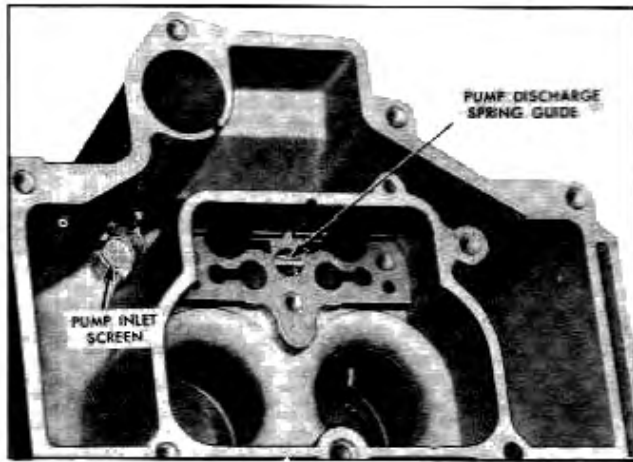

Fig. 6B-44 Pump Discharge Spring Guide and Pump Inlet Screen
6. Remove pump return spring from pump well (Fig. 6B-43). Carefully invert carburetor body to remove aluminum pump inlet ball.